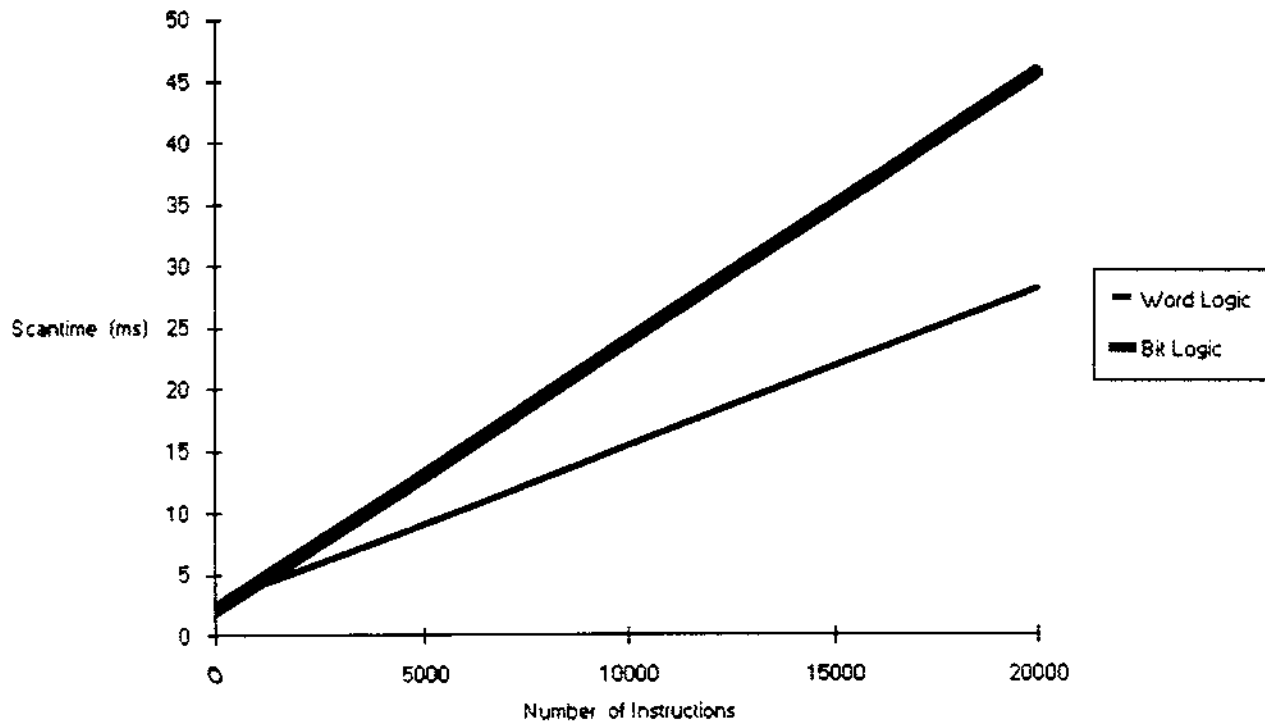

Figure 2.3 Execution Times for Bit Logic and Word Logic Instructions
- (1) T_s = The System overhead - the time taken by the system checks in each scan loop; this is a constant 3ms.
- (2) T_b = The Bit logic instructions - the total time taken to execute all the --| |-- and --()-- instructions in the ladder program. To calculate T_b count the number of bit logic instructions in the ladder program and use the graph in Figure 2.3 to estimate the value.
- (3) T_w = Word logic instructions - the total time taken to execute all the AND, OR, XOR and INVERT instructions in the ladder program. To calculate T_w count the number of word logic instructions in the ladder program and use the graph in Figure 2.3 to estimate the value.